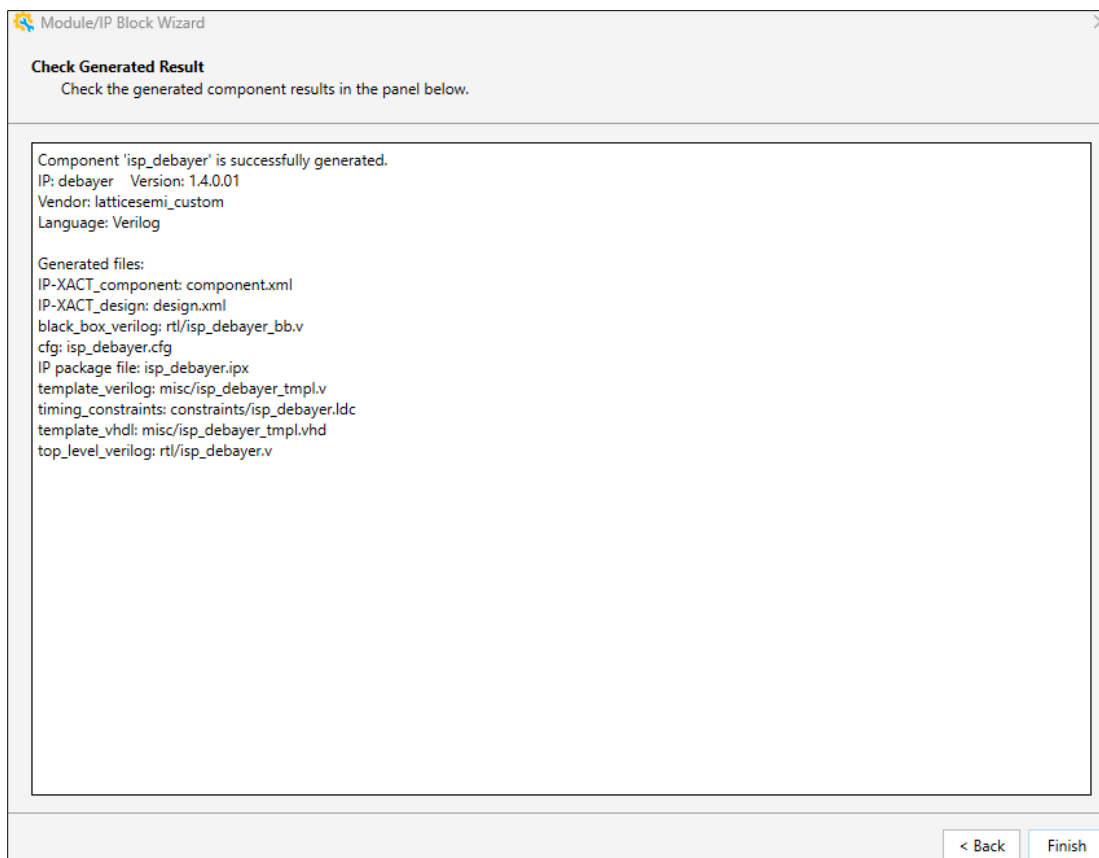

Figure 7.20. Debayer IP Check Generated Result Window
4. After the generation is completed, click **Finish** in the **Check Generated Result** window (Figure 7.20).